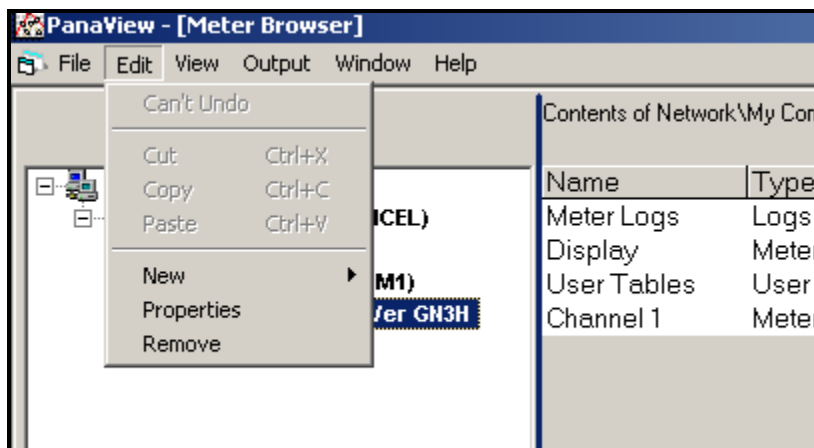

Figure 25: The *Properties* Option in the *Edit* Menu
2. Open the "Edit" menu and select the "Properties" option, as shown in Figure 25 below.